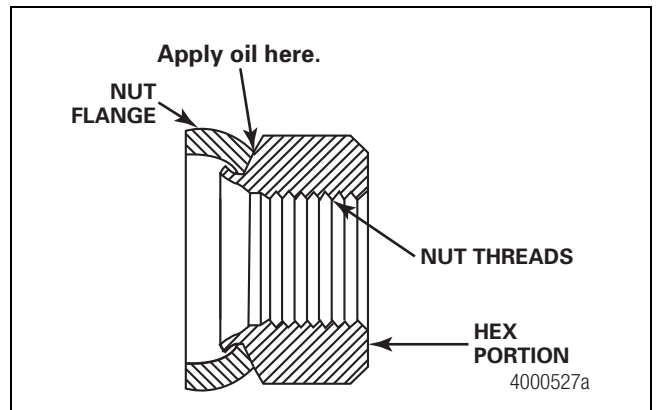

Figure 6.44
- Add two drops of oil between the nut flange and the hex portion of the swivel area on the two-piece flange nuts. Do not use more than two drops of oil. Figure 6.44.